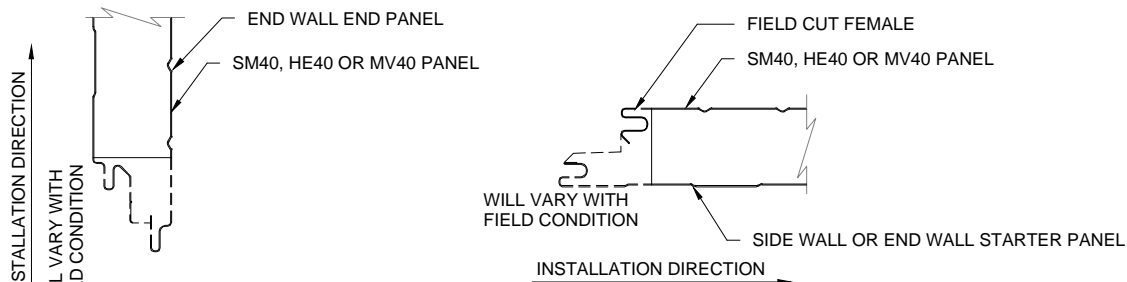

FIGURE 6
- 14.1 PANELS ARE INSTALLED FROM LEFT TO RIGHT WHEN VIEWED FROM THE EXTERIOR. STARTER PANEL SHOULD BE FIELD CUT AS SHOWN. (SEE FIGURE 6)